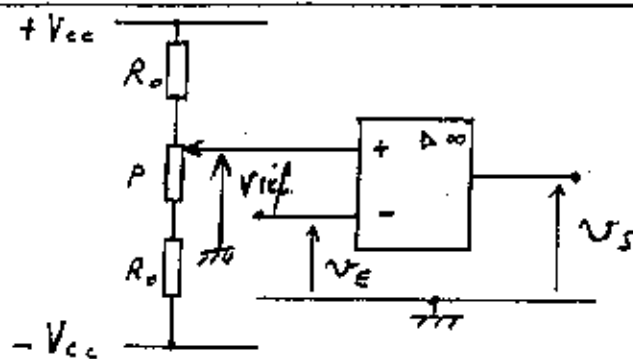

FIGURE 2
I) CIRCUIT COMPAREUR (FIGURE 2).